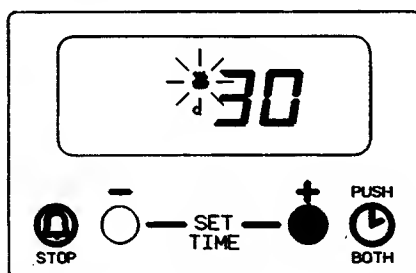

Fig. 6.5
Release button (1) and press and hold button (2). The display will count up in one minute intervals until the interval to be timed is reached e.g. 30 minutes, see Fig. 6.5. If necessary, press and hold button (1) to achieve the correct time interval.